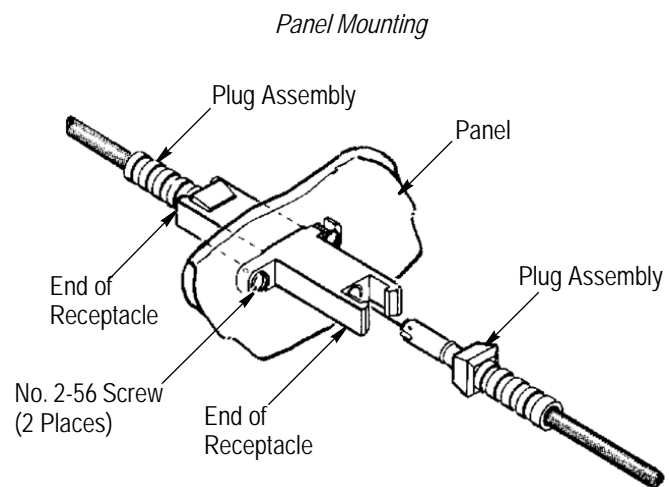

Figure 4
1. Cut the panel using the recommended cutout dimensions given in Figure 4.
2. Install the receptacle in the panel cutout, and secure it using the two No. 2-56 screws as shown in Figure 4.
3. Connect a plug assembly to both ends of the receptacle. Refer to Figure 4.